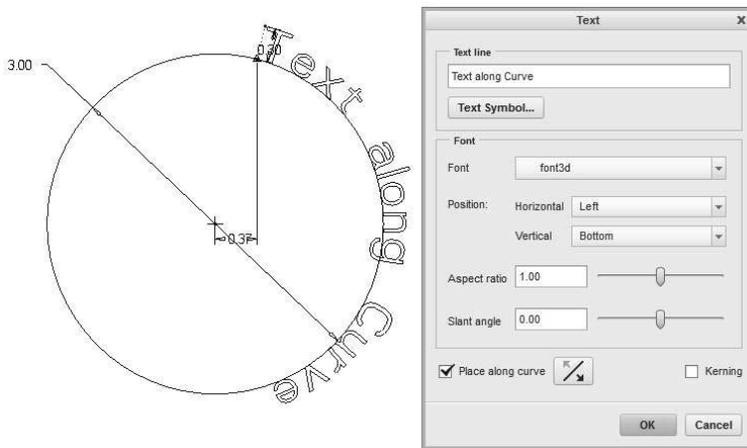

Figure 3-4 Text along a Curve
**Text Along A Curve**—To place text along a curve create the start and height points as before, then check the “Place along curve” box (Figure 3-4) followed by selecting the curve to follow using the LMB. Type the text as before.